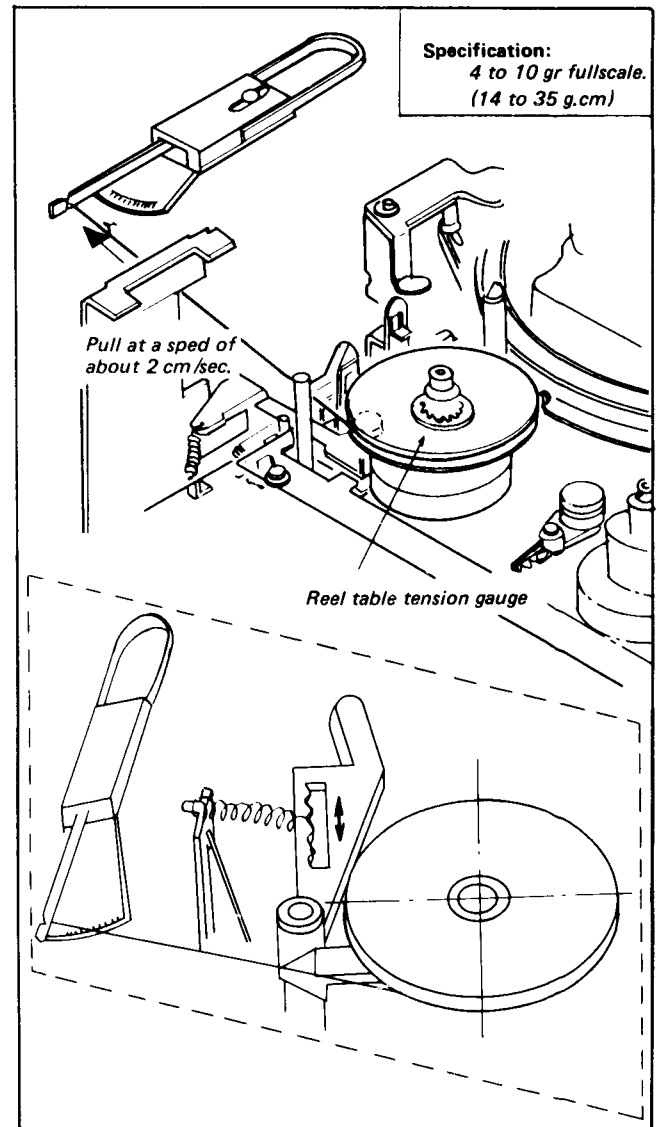

Fig. 3-21.
- (1) Mount the reel table tension gauge on the supply reel table as shown in Fig. 3-21 and hook the sector type gauge (50 g fullscale) to the end of the string of the tension gauge.
- (2) Set up the FF mode. Then pull away the sector type gauge at a speed of about 2 cm/sec. and check that the gauge reading is as specified.